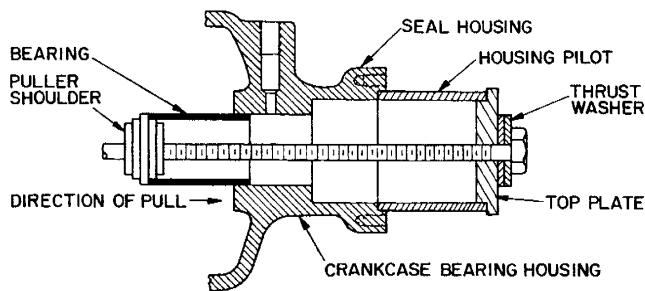

Fig. 47 — Seal-End Main Bearing (5F40, 60)
3. Press bearing into place using a puller shoulder (Table 12 and Fig. 47 and 48) and jack screw or bearing press.
DISASSEMBLY AND INSPECTION — With crankshaft removed, use a bearing puller with a shouldering device to remove and install seal-end main bearings (Fig. 47 and 48). Bearing pullers can be ordered through Carrier or Totaline Parts.